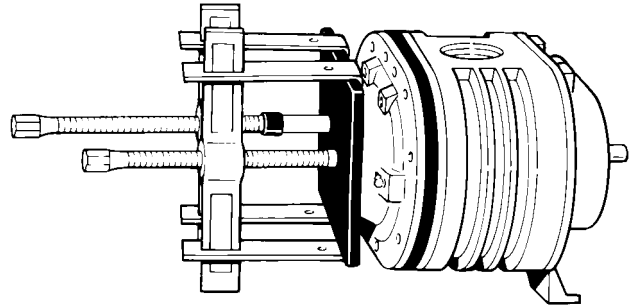

FIGURE 15
8. Remove mounting foot (17) from the drive headplate (24) by removing the capscrews (16).
9. Remove the capscrews (21) which secure the drive headplate (24) to the impeller case (22).
11. Install a gear puller to each shaft and attach puller arms to the plate. Turn each puller only half a revolution at a time keeping the advance of the shafts as uniform as possible (see FIGURE 15). After the headplate has been removed, detach the puller plate.